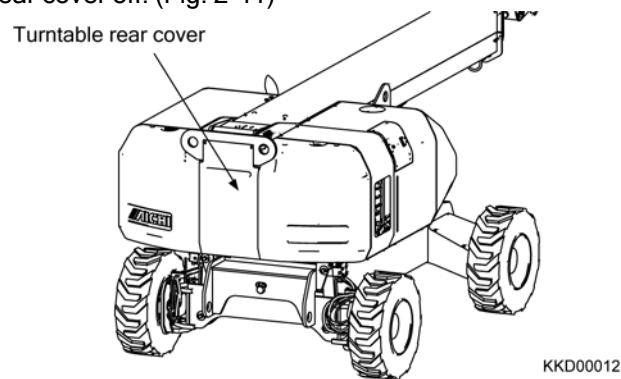

Fig. 2-41
- 16) Take the turntable rear cover off. (Fig. 2-41)